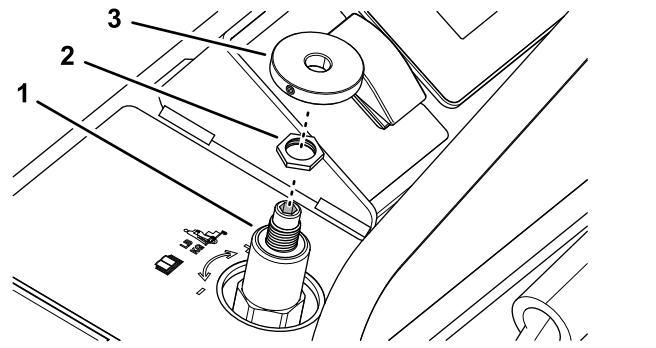

Figure 59
1. Ensure that the setscrew in the weight control knob is rotated counterclockwise enough so that the knob slips over the shaft of the weight control valve (Figure 59).
2. Ensure that the jam nut on the shaft of the weight control valve is tightened (Figure 59); refer to step 6 in Adjusting the Operator Weight Control Valve (page 47).
3. Assemble the knob onto the shaft of the weight control valve (Figure 59).
3. Loosen the jam nut for the weight control valve, refer to Figure 59 in Assembling the Weight Control Knob (page 47).